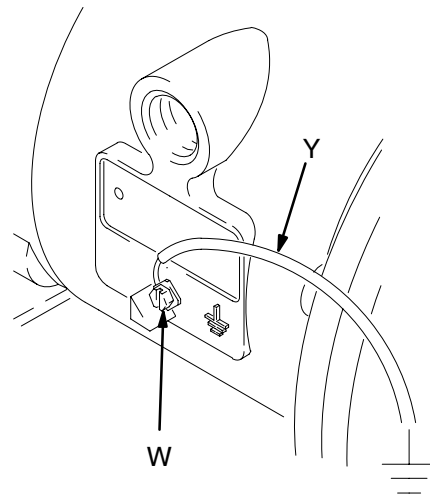

Fig. 1
Polypropylene and PVDF are **not** conductive. Attaching the ground wire to the grounding lug will ground only the air motor. When pumping conductive flammable fluids, **always** ground the entire fluid system by making sure the fluid has an electrical path to a true earth ground. See Fig. 1.
- *Air Motor*: Connect a ground wire and clamp as shown in Fig. 1. Loosen the grounding screw (W). Insert one end of a 12 ga (1.5 mm²) minimum ground wire (Y) behind the grounding screw and tighten the screw securely. Connect the clamp end of the ground wire to a true earth ground. Order Part No. 237569 Ground Wire and Clamp.